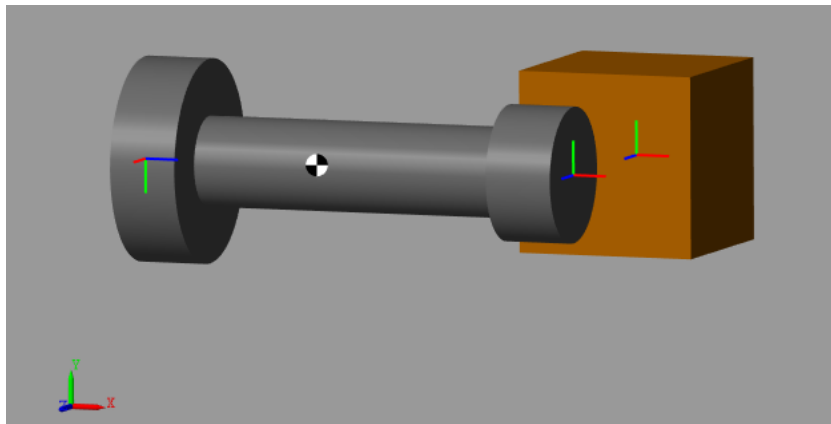

Figure 12: Dumbbell Pendulum
19. Update the model and graphics. Within the Mechanics Explorer window, you will see the model correctly connected as it does in figure 12.